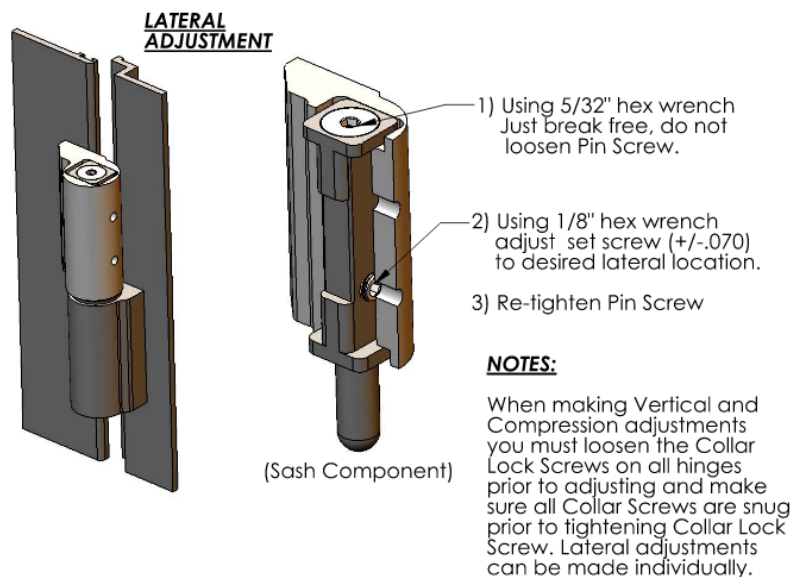

Figure 23
- Follow the instructions in Figure 23 below, there should be an even 9/16" gap around the perimeter of the door leaf at the head and jambs.